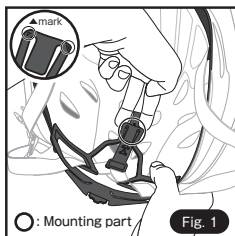

Fig. 1
- ① Firmly hold the spots indicated by ▲ marks on the part attached at the back of the Adjuster, and pull the part toward you to detach it (Fig.1).
- ① Pass the both sides of the XF-8 Adjuster through the A.I.Net. Insert the XF-8 Adjuster in the attachment holes on the both sides. (See Fig.1)